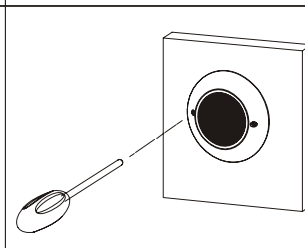

Figure 7
- Hang the light onto the Mounting ring and tighten the screws (Figure 7).